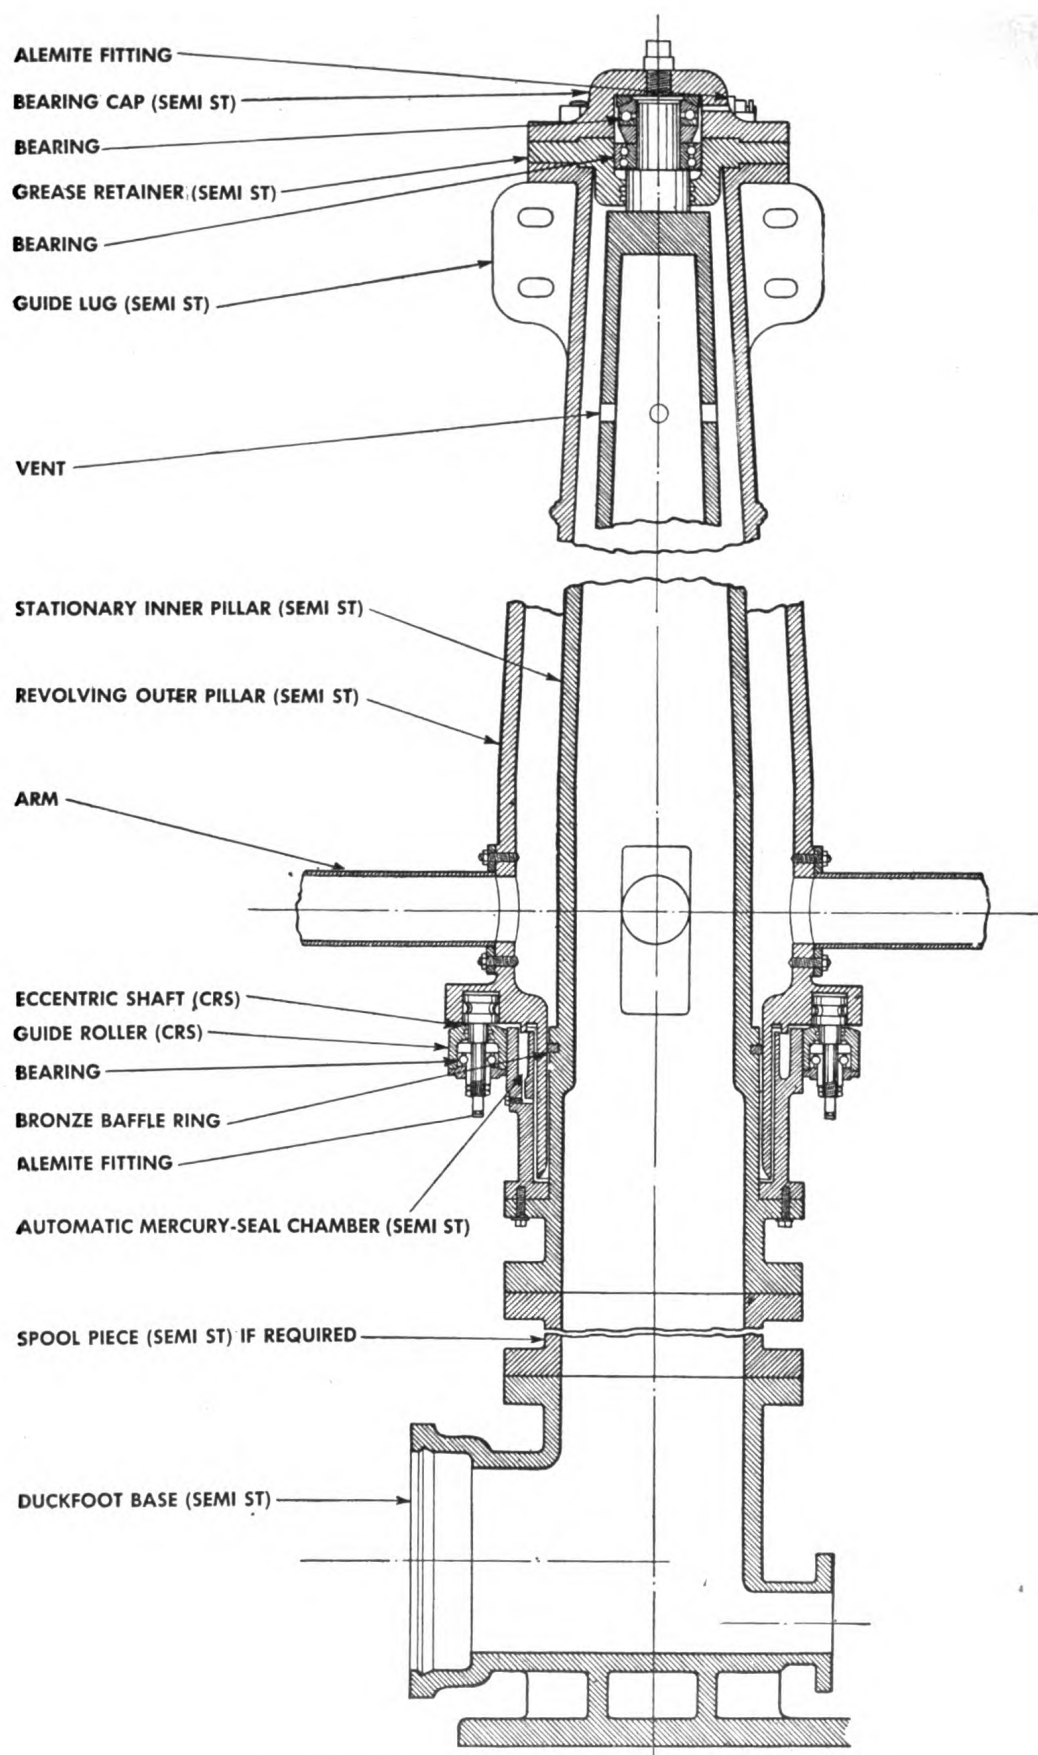

Figure 41. Yeoman's-Simplex rotary distributor.
71. Yeoman's Reaction Type Units (fig. 41)